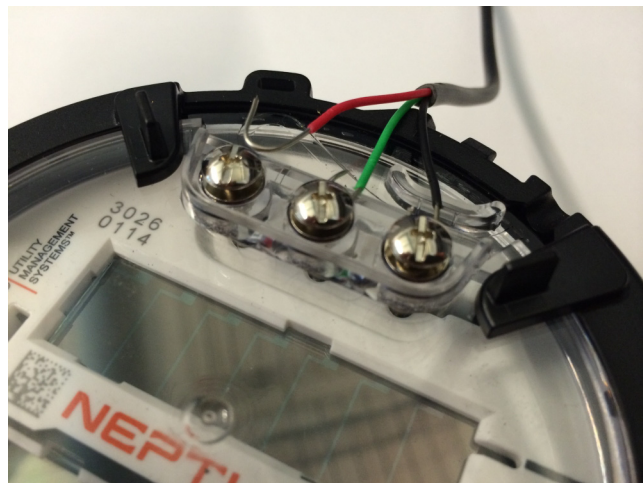
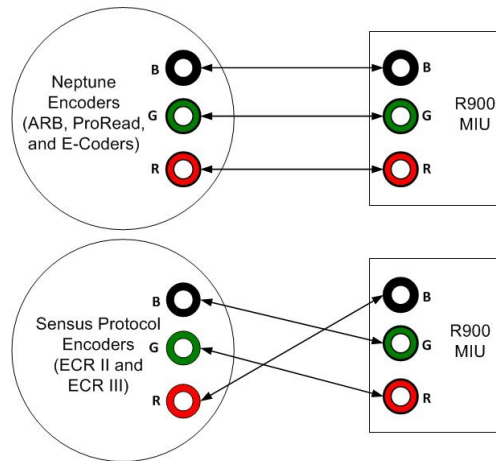

Figure 8 Wiring a Neptune Encoder Register
Figure 9 MIU Color Code for Wires
- 6 If required, connect the three conductor wires to the encoder register's terminals per the manufacturer's instructions. See Figure 8 and Figure 9.